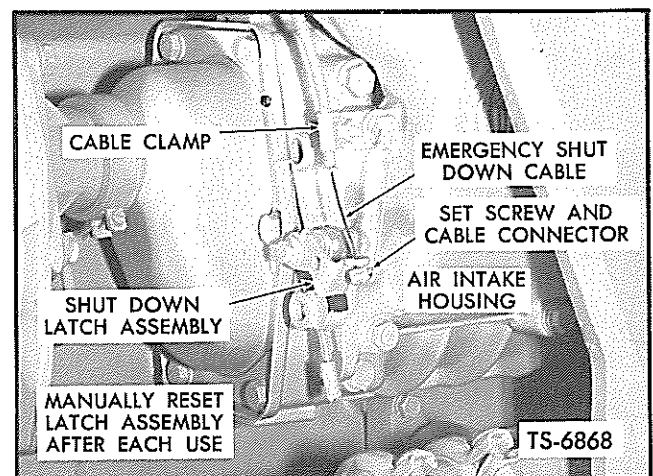

**Fig. 28. Adjust Engine Fuel Shut-off Control — G.M.**
4. Adjust cable tension if necessary at engine fuel shut-off lever on governor assembly by loosening set screw from cable connector, and increasing cable tension as necessary. Resecure cable in cable connector by retightening set screw. See Figure 28.